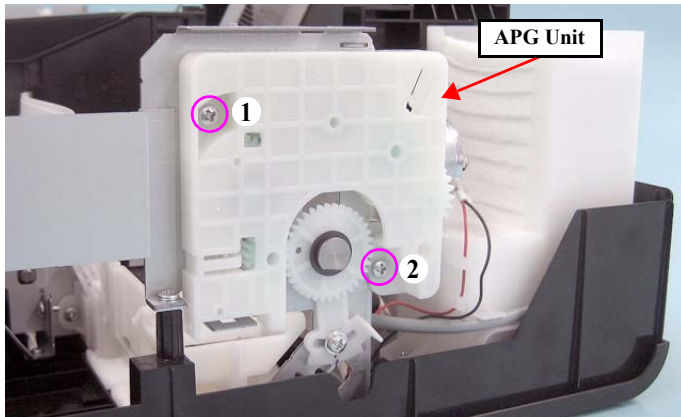

Figure 1-57. Removing the APG Unit
- Tighten the screws in the order given in Fig.1-57 \(p.41\).